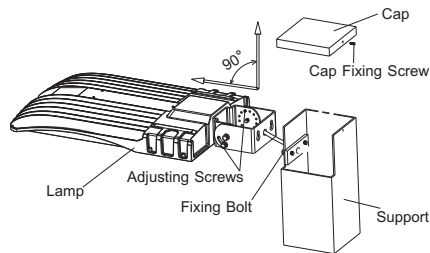

figure 2
1. Loosen cap fixing screw and take cap off. Loosen fixing bolt, fixed the fixture on the support and tighten fixing bolts. (figure 2 )
2. Let the AC wire go through support hole and connected correctly. Close cap and tighten cap fixing screw after AC cable is well placed in the support. (figure 2)
3. Loosen adjusting screws, align the fixture to required angle and fasten the screws. (figure 2 )